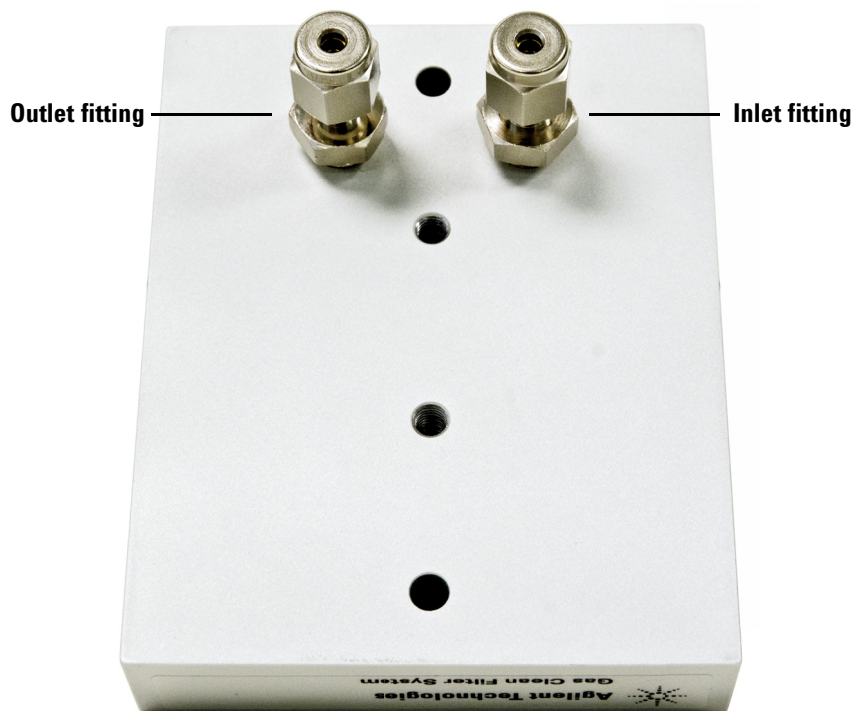

Figure 8. Inlet and outlet fittings installed on the underside of the connecting unit
- d Install the inlet and outlet fittings on the underside of the connecting unit using a 1/2-inch wrench (**Figure 8**).